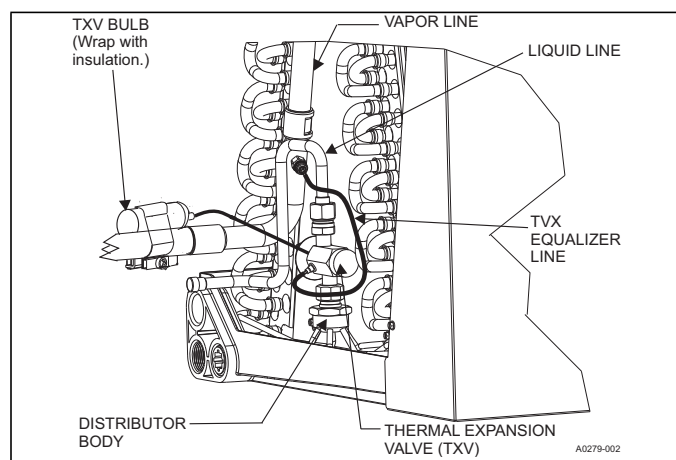

Figure 9: TXV bulb and equalizer line installations
5. Slide the nut removed in Step 3 over the supplied liquid line. Place the supplied PTFE washer from the TXV kit on the TXV, and install the liquid line to the top of the thermal expansion valve. Adjust the assembly so the liquid line aligns with the hole in the access panel. See Figure 9. Hand tighten the liquid line and apply an additional 1/4 turn to seal.
6. Install the TXV equalizer line onto the vapor line by hand tightening the 1/4 in. SAE coupling nut to the equalizer fitting and apply an additional 1/3 turn to seal. See Figures 9, 10, and 11.
8. Install the TXV bulb to the vapor line near the cabinet, using the bulb clamps furnished with the TXV assembly. Ensure the bulb makes maximum contact. See Figures 9, 10 and 11, and do the following: